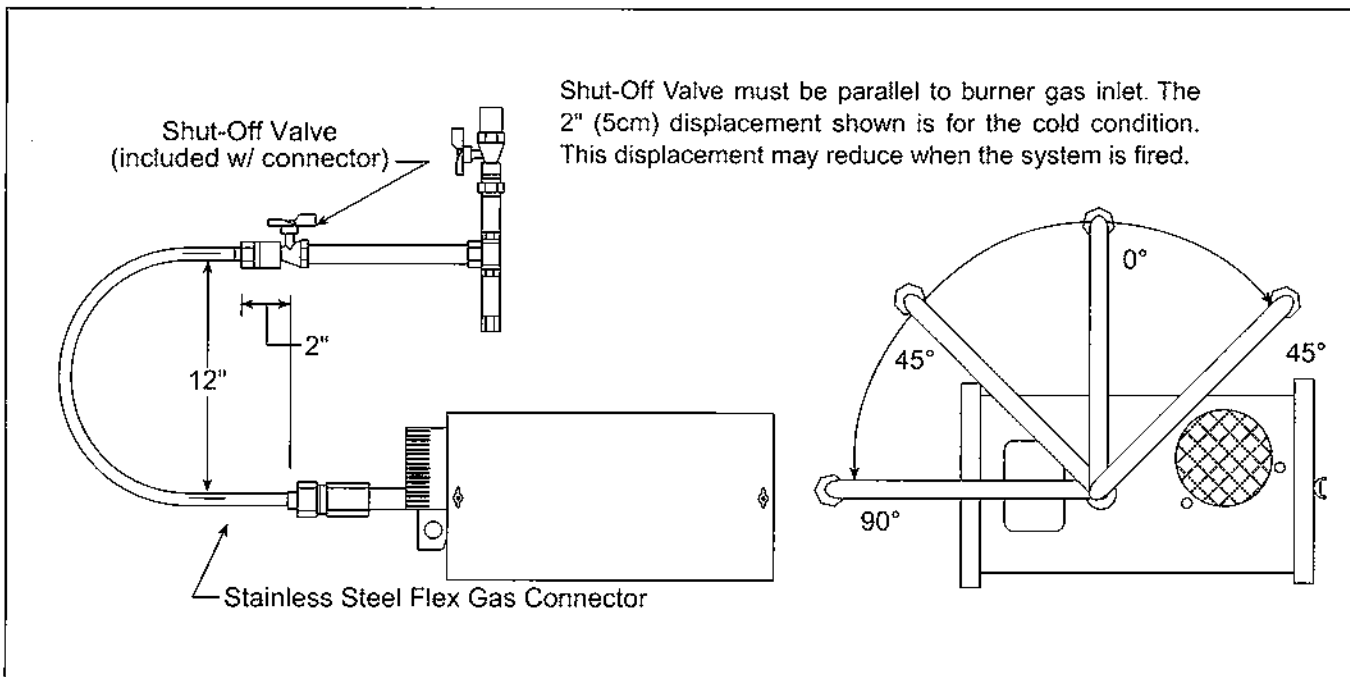

Figure 27. Gas Line Connection with Stainless Steel Flex Gas Connector
4. Combined length of the 4" and 6" pipe shall not exceed 45 feet (13.7 m) with 2 elbows maximum per unit (see Fig. 27). See also Vent Length Requirements heading on page 23 for more detailed guidelines.
Fire Hazard Connect gas according to Figure 27. Gas line moves during operation. Failure to follow these instructions will result in death, injury or property damage.	Explosion Hazard Do not pressure test the gas pipe with the burner connected. Failure to follow these instructions will result in death, injury or property damage.
A 1/2" gas supply connection at each burner location must be located and oriented as shown in Figure 27. To check system pressure, put a plugged 1/8" NPT tapping in the gas line at the connection to the burner furthest from the supply. Before connecting the burners to the supply system, verify that all high pressure testing of the gas piping has been completed.